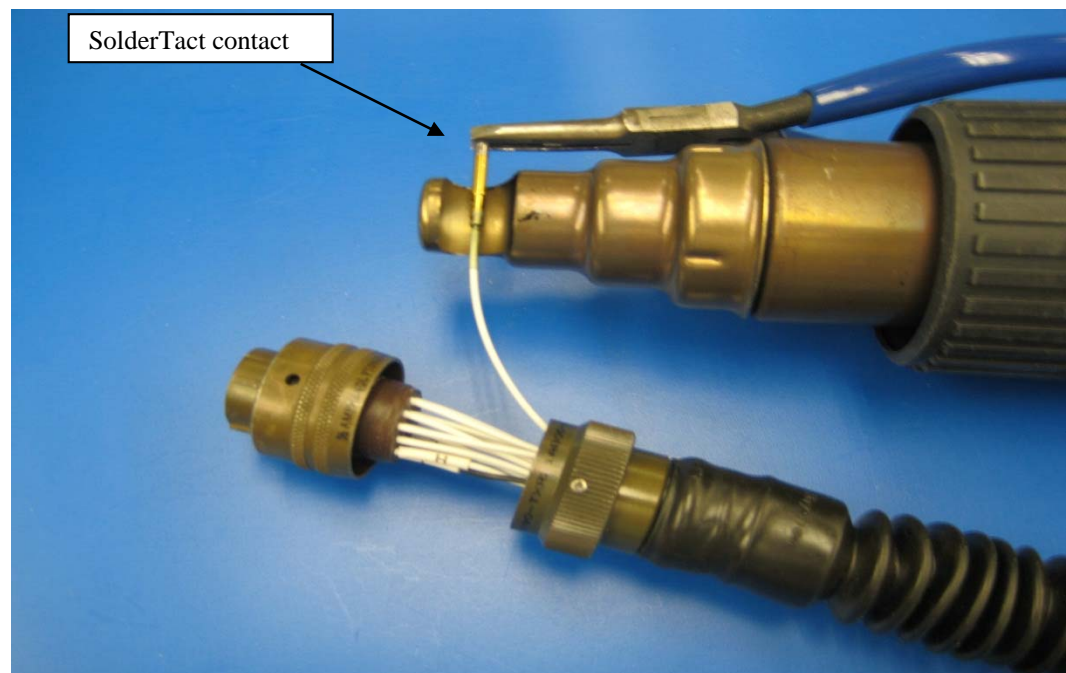

Figure 2-5
- SolderTacts™ contacts can be removed without shortening the wires. Use a hot air or infrared heating tool with a SolderSleeve™ reflector to heat the SolderTacts™ contact until the solder melts (See Tool Appendix). Pull the contact off before the solder solidifies (Figure 2-5).